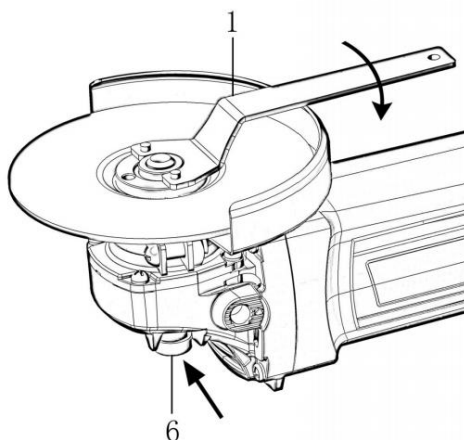

Fig 4
2. To tighten the outer flange, press the shaft lock firmly so that the spindle cannot remove, then use the lock nut wrench and securely tighten clockwise. (Fig4)